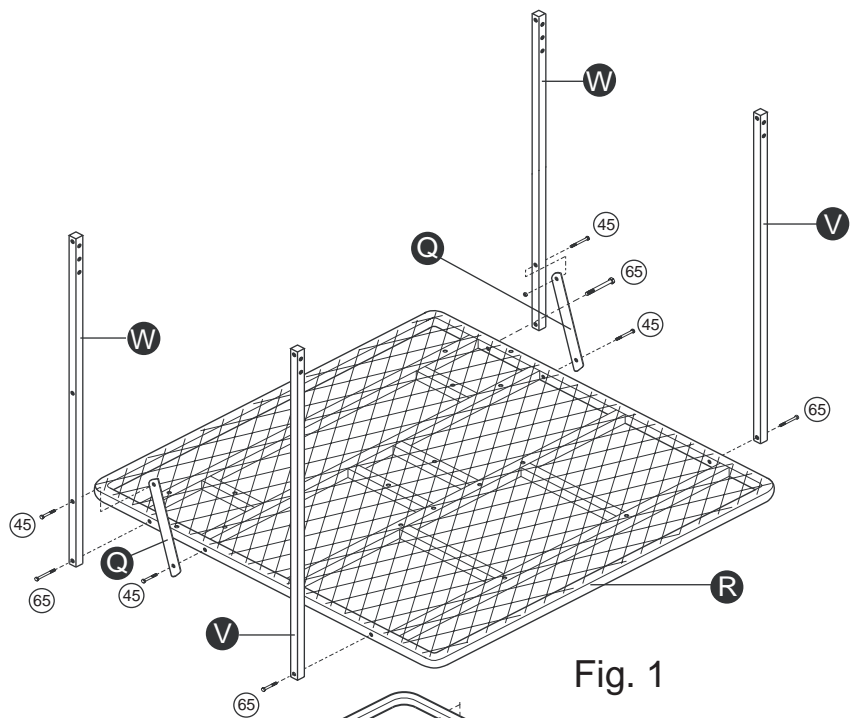

Fig. 1
1. Attach Front Rail Support Bars **V** to front of Platform **R** with **1-65mm bolt** for each side. Then, attach Rear Rail Support Bars **W** to rear of Platform **R** with **1-65mm bolt** for each side. (See Fig.1)
2. Attach Rear Rail Support Brace **Q** to rear of Platform **R** and Rear Rail Support Bars **W** with **2-45mm bolts** for each side. (See Fig.1)